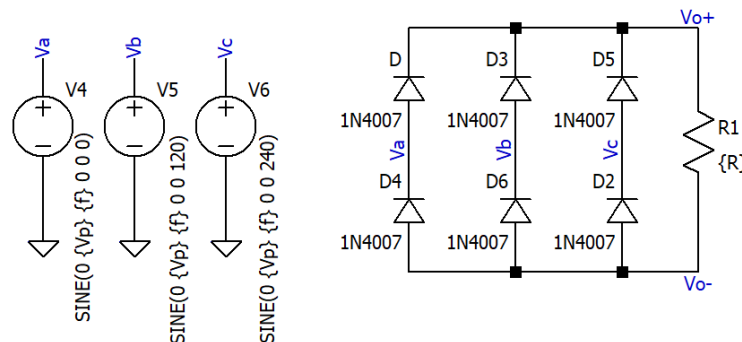

Figure 4.2 Uncontrolled 3-Phase full wave rectifier with resistive load
1. Connect the circuit as shown in Figure 4.2 in LT-spice Program.